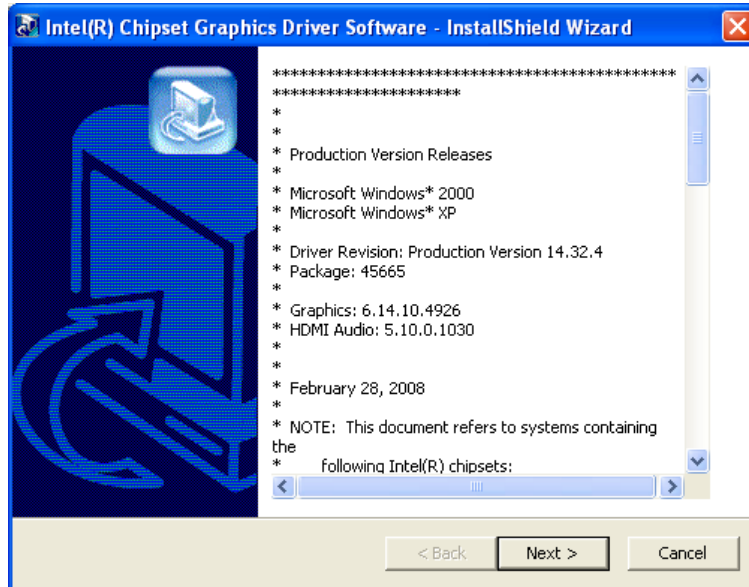

Figure 6-8: VGA Driver Read Me File
Step 3: The VGA Read Me file in Figure 6-8 appears.